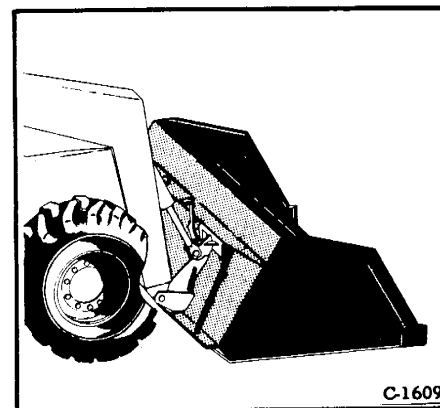

Fig. 13 Alignment Position
2. Maneuver machine until upper lip of Bob-Tach is aligned directly beneath mounting flange on bucket or attachment (Figure 13).